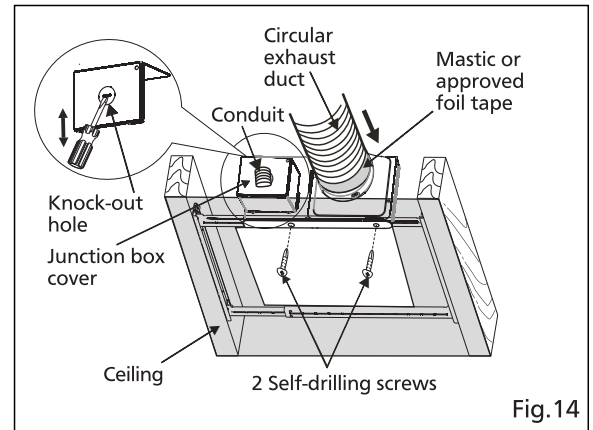

Fig.14
3. Install the adaptor to Flex-Z Fast™ bracket by using 2 self-drilling screws. (Fig.14)